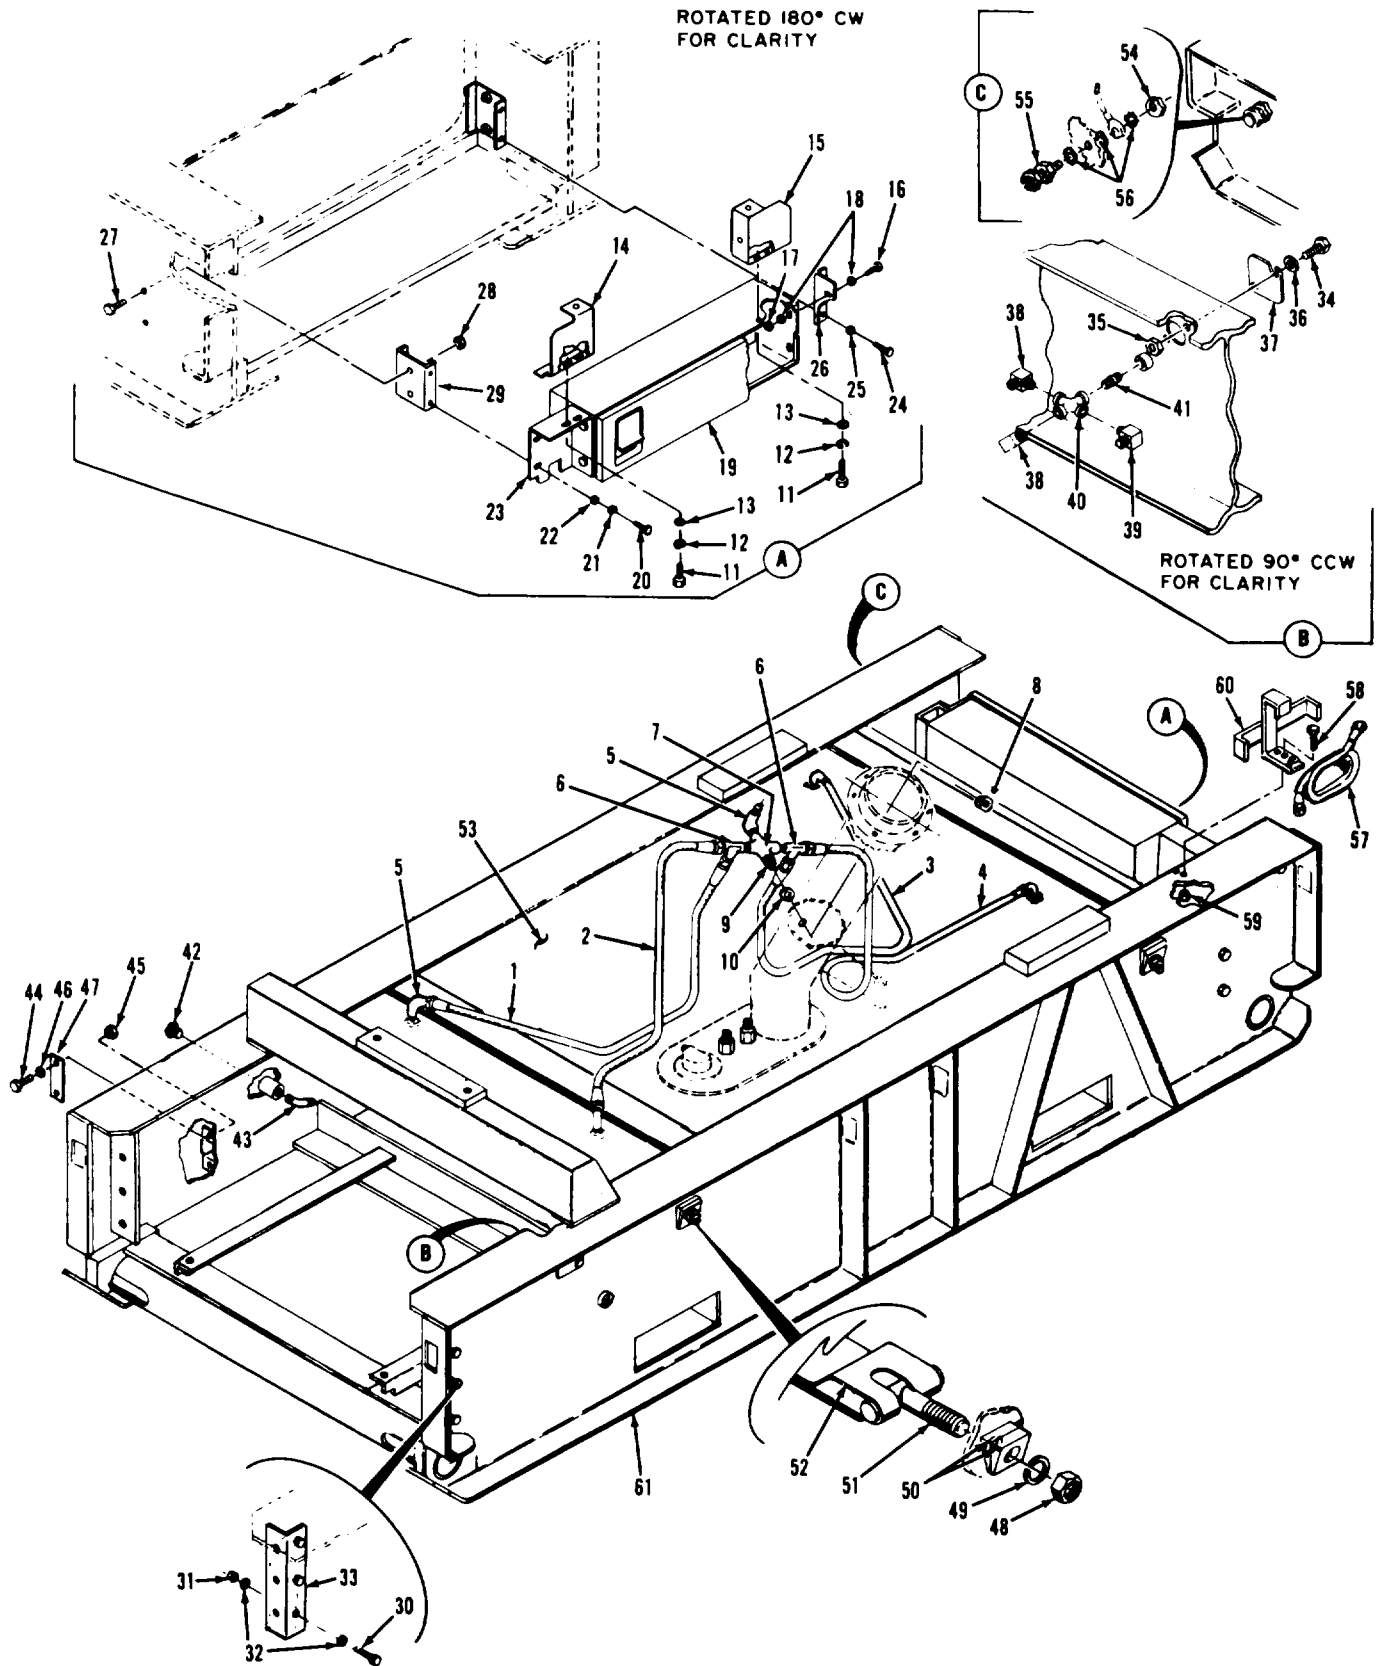

Figure 9-1. Base assembly, exploded' view
Refer to figure 9-1 and disassemble base assembly in the order of index numbers assigned. Pay particular attention to the following:
Legend to figure 9-1:
Refer to figure 9-1 and reassemble base assembly in the reverse order of index numbers assigned. Pay particular attention to the following:
Refer to figure 9-1 and remove stowage tool box from base by removing screws (16), nuts (17), and washers (18).
Refer to figure 9-1 and install stowage-tool box assembly in base assembly. Pay particular attention to the following:
Refer to figure 9-1 and remove the fuel tank as follows: